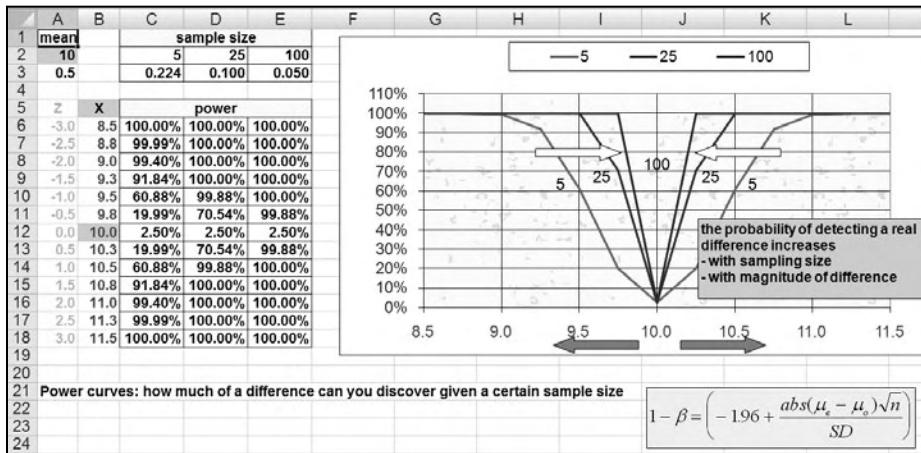

Figure: 5.56
In Figure 5.56, we are doing something similar, but this time for different sample sizes (5, 25, and 100), and given a specific mean (10) and standard deviation (0.5). The power curves become steeper when the sample size gets larger – in other words, the probability of detecting a real difference decreases when the sample size decreases. On the other hand, these power curves also tell us how much of a difference we would be able to detect for a given sample size.